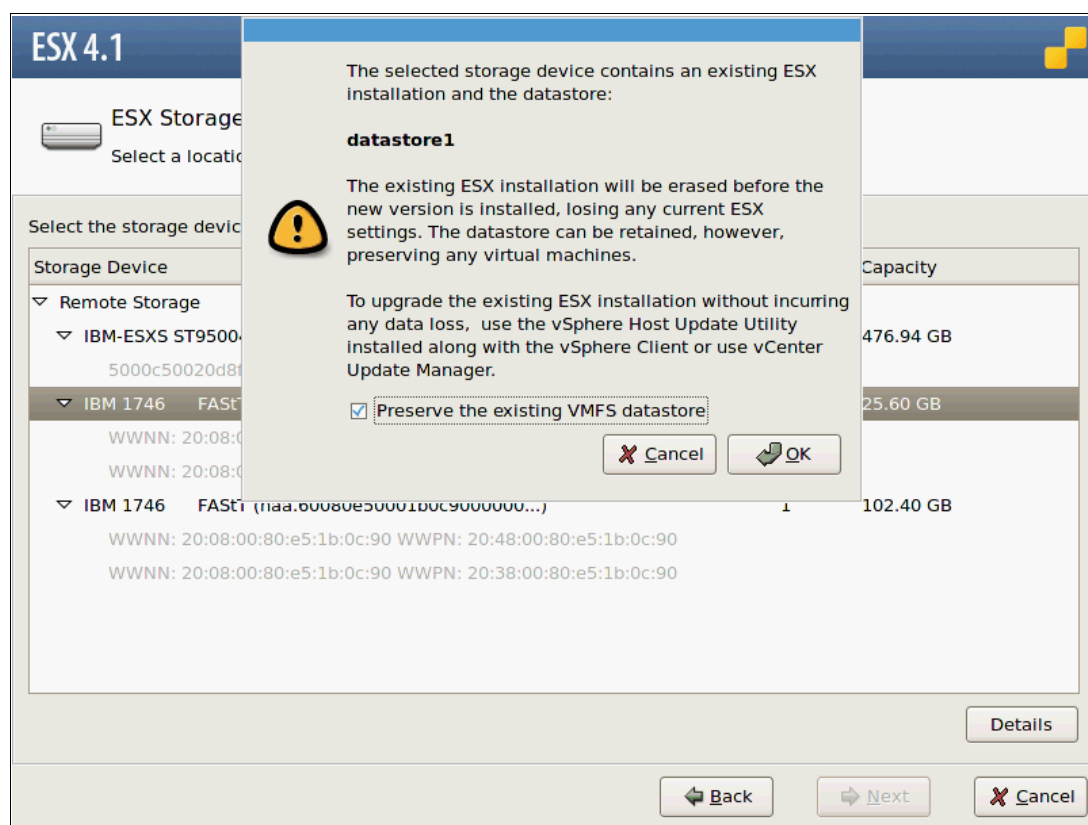

Figure 22-25 ESX Device content warning
14.If VMware finds an existing Installation, you will get a warning about it. You can choose to preserve your VMFS datastore on the Delete Device Contents warning panel as shown in Figure 22-25. Click **OK** to continue.